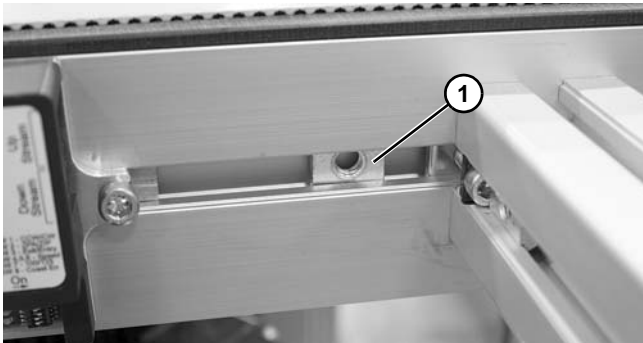

Figure 70
1. Install cam follower nut (**Figure 70, item 1**) in conveyor rail channel. Repeat for opposite conveyor rail.